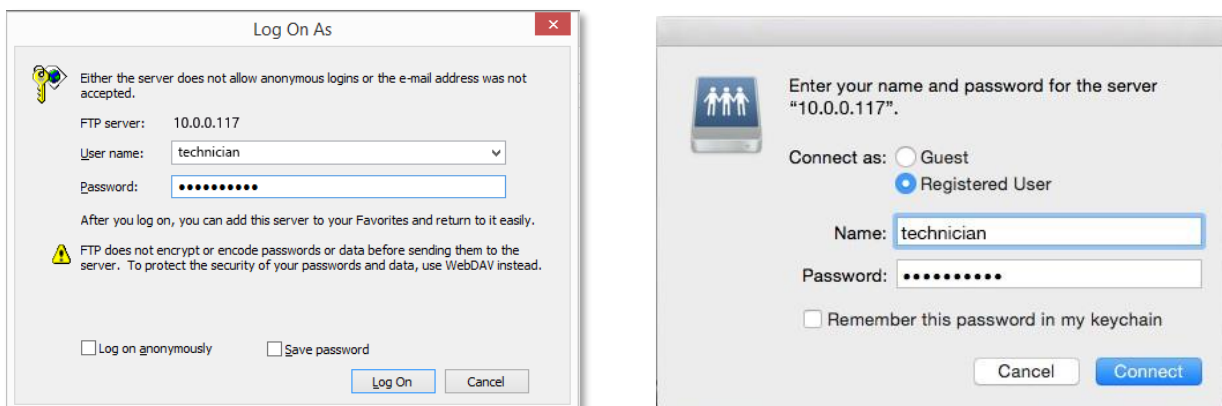

Figure 103: The FTP log on window using File Explorer (left) or Finder (right).
2. The FTP log on window will appear (**Figure 103**).